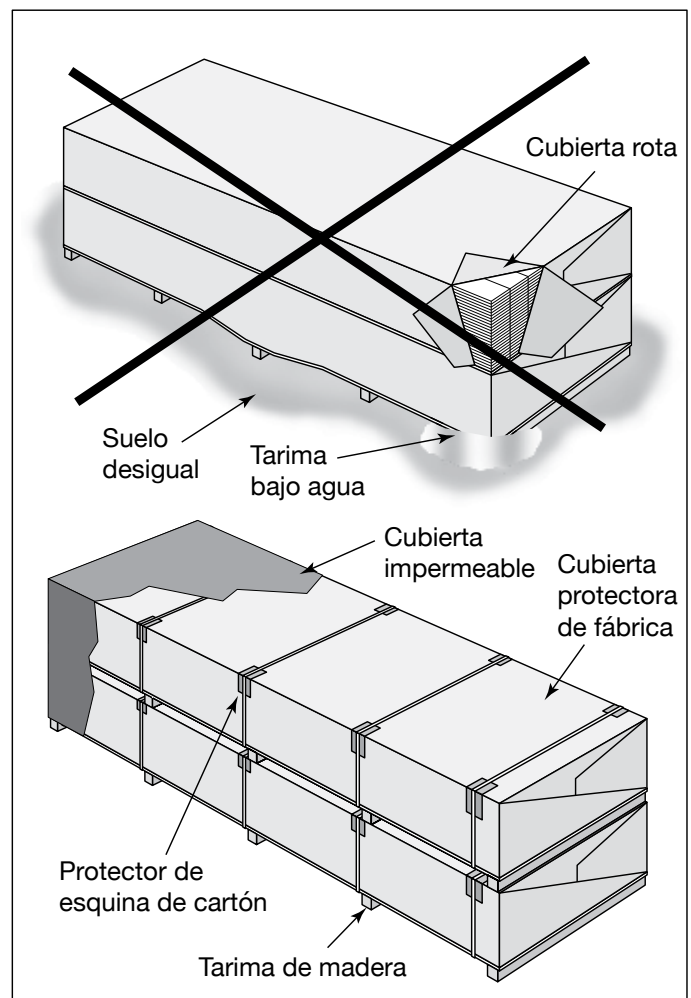

Fig. 1
- Product must be stored flat on a level surface in a clean, dry location (**Fig. 1**).
- Keep product wrapped and protected from the elements until ready for installation (**Fig. 1**).
- Cardboard corners should be used under all bands (**Fig. 1**).